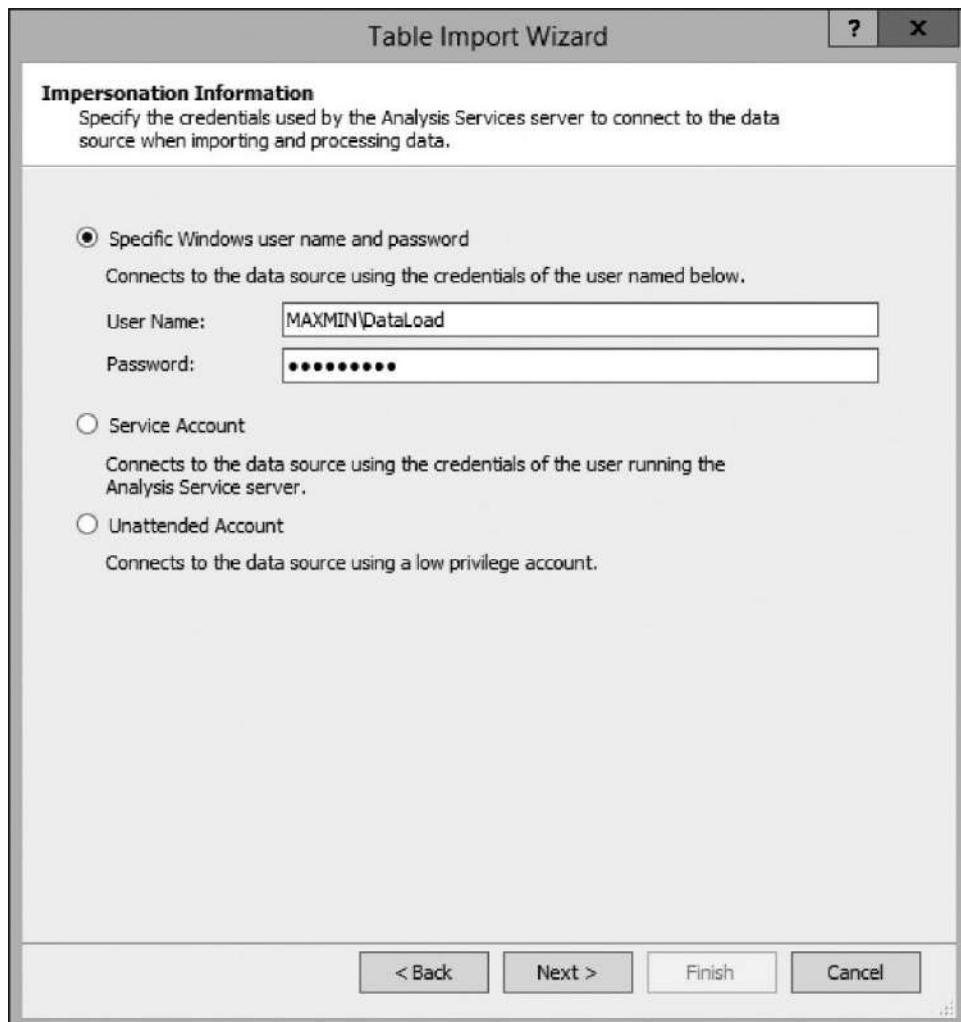

Figure 9-5 The Impersonation Information page of the Table Import Wizard
8. Enter a Windows user name and password that can be used to connect to the OrderProcessingSystem database. These credentials will be used when the Analysis Services server imports and refreshes the data in the model. This is shown in Figure 9-5 .